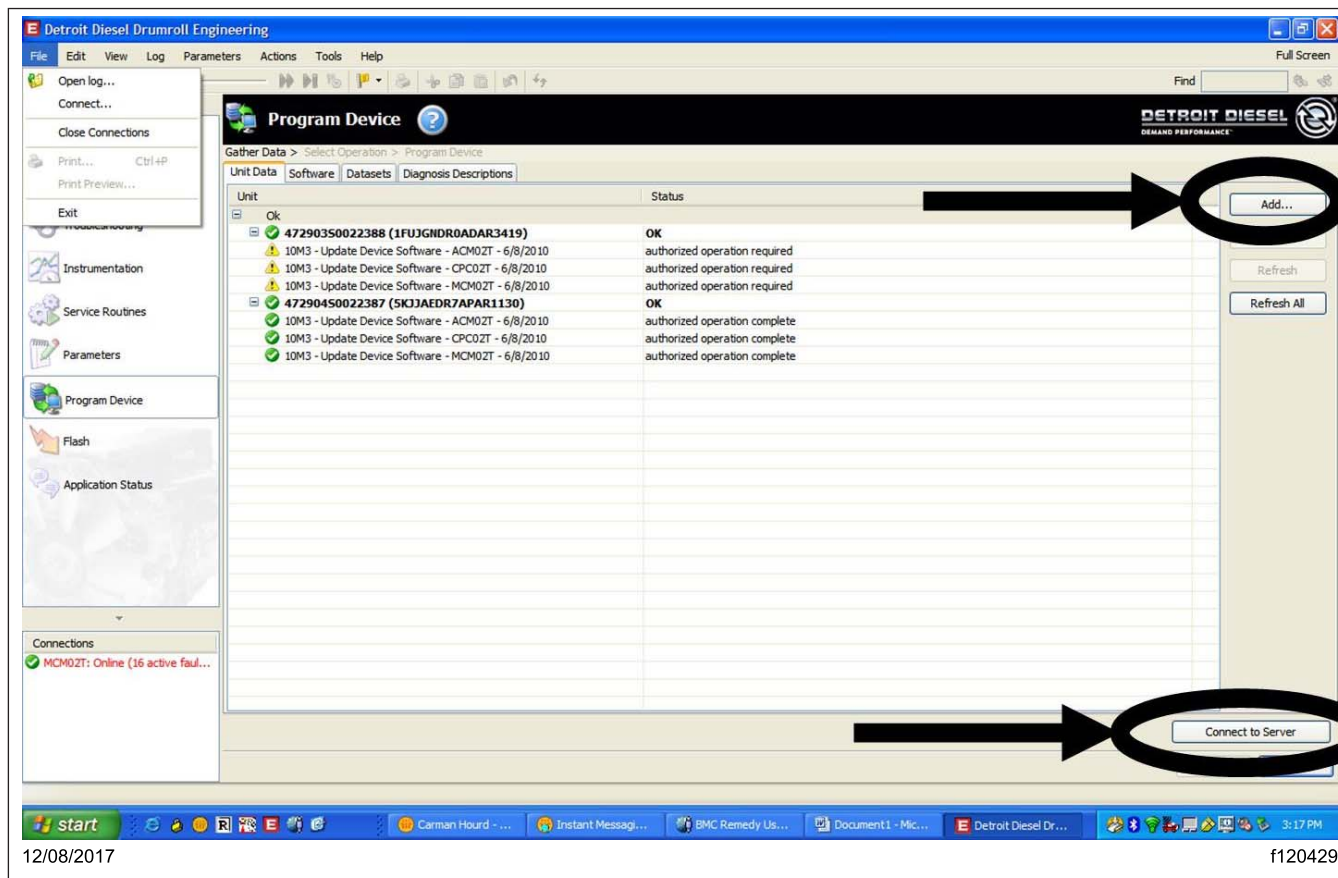

Fig. 11, Adding Engine Serial Number And Connecting To Server
7. Select the “Add” button in the upper right corner of the DiagnosticLink screen and enter the engine serial number. Then click the “Connect to Server” button in the bottom right corner of the DiagnosticLink screen. See Fig. 11.